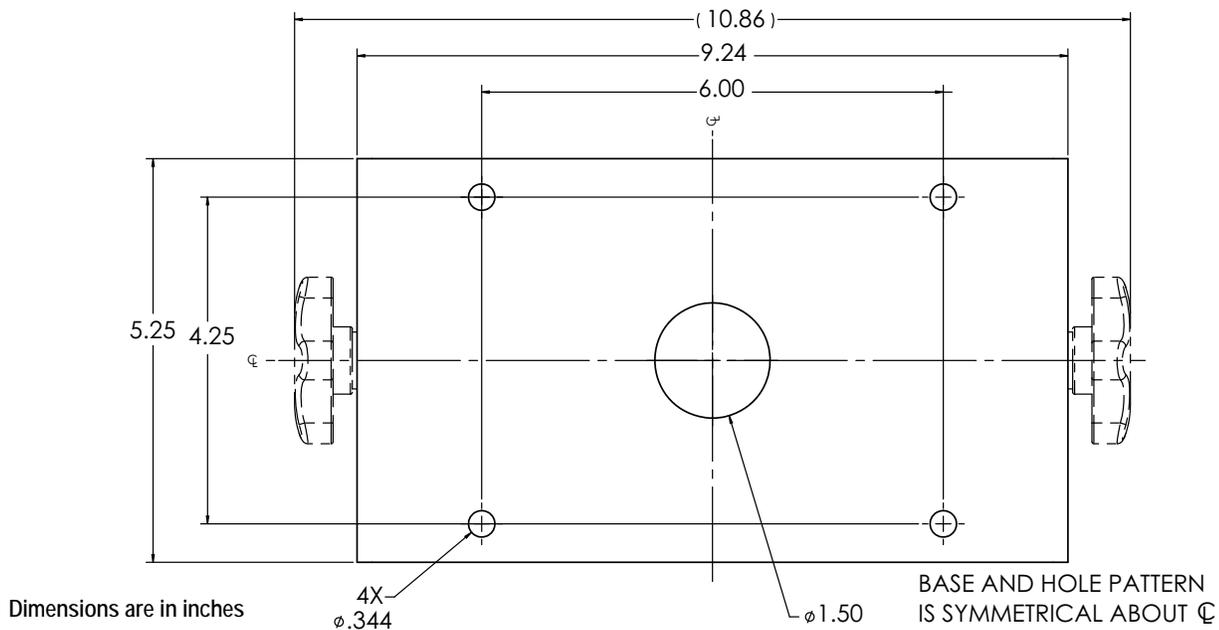

Figure 2-5. Universal Surface Mount Stand Dimensions
1. Using the tilt stand as a template, mark the screw locations. See Figure 2-5 on page 22 for dimensions.
This illustration is not to scale. It is for illustration purposes only. Use the dimensions to mark the holes for the universal mount, or use the bottom of the tilt stand as a template. Do not use Figure 2-5 as a template.